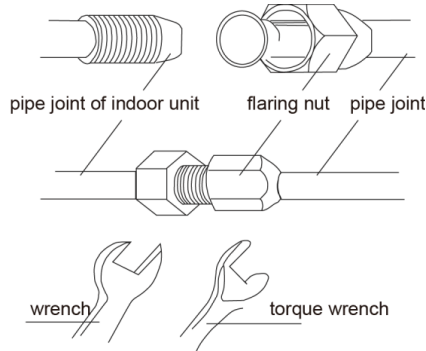

Fig 9.2.1
(1) Aim the flaring port of copper pipe at the center of screwed joint and then tighten the flaring nut with hand as shown in fig 9.2.1.
(2) Tighten the flaring nut with torque wrench.